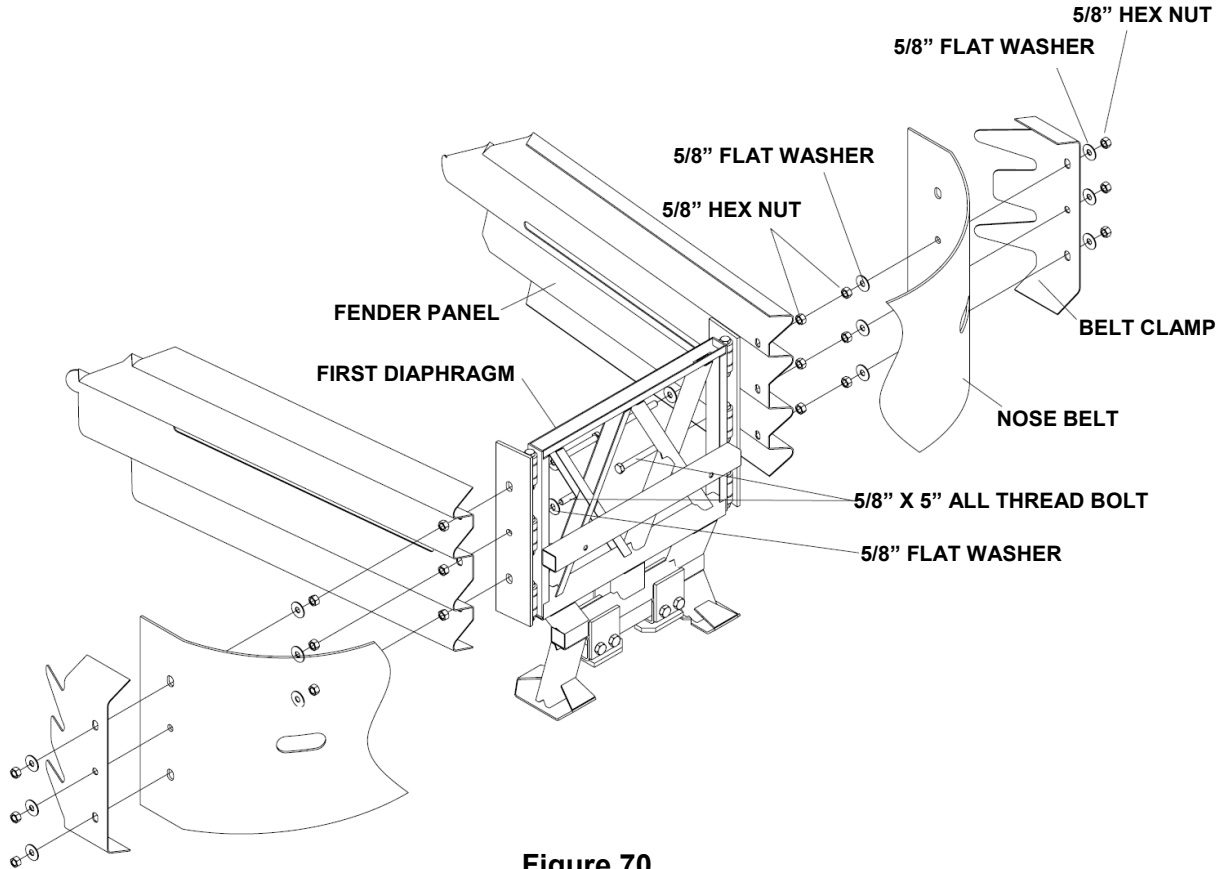

Figure 70
Attach the Nose Belt to the Fender Panels using six (6) 5/8" x 6" threaded rods as shown in Figure 70.